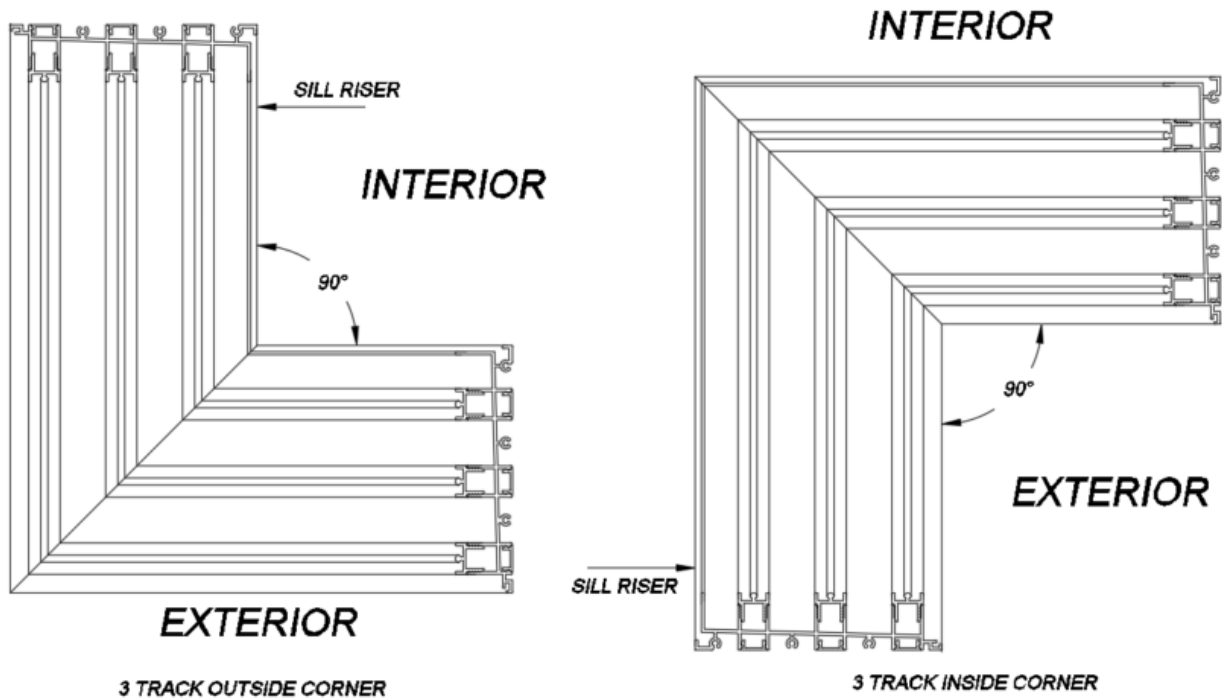

Figure 31
1. Determine whether the unit is an outside or inside corner using the sill riser as a guide and verify that the frame is facing the correct exterior direction. The sill riser will always remain facing the interior of the opening (Figure 31).